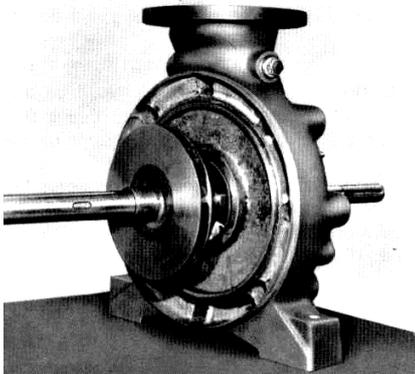

Fig. 71 - Shaft with first stage impeller inserted into suction casing
3. Insert shaft (210) together with spacer sleeve (525.1) and impeller (230) into suction casing (106) (see Fig. 71).